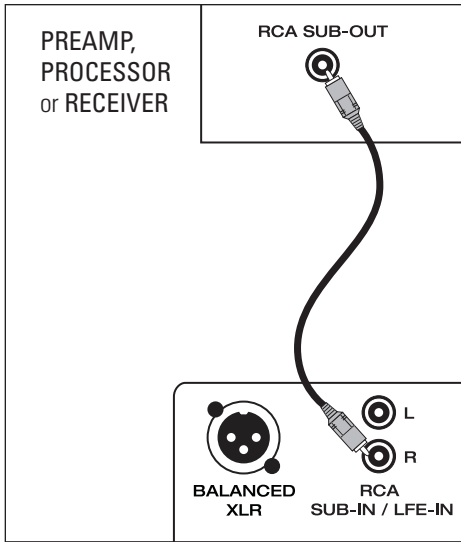

Fig. 4a
Line-Level RCA Input (Figs. 4a – 4b)
1. **Mono Input (Left, Right, or Sub-Out)** connects from the RCA (S/E) Sub/LFE–Output of your Preamplifier/Processor, A/V Receiver or other suitable line-level source (Fig. 4a).